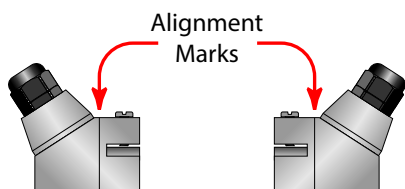

Figure 13: Transducer alignment marks for DTTN, DTTH, DTTL
**NOTE:** When step 13b is complete, the *Required Spacing* field will display a value. This is the value to which the two different transducers will be spaced on the piping. For DTTR, DTTN, DTTH or DTTL transducer types, the spacing between the two should be at their alignment marks. See Figure 13 and Figure 14.